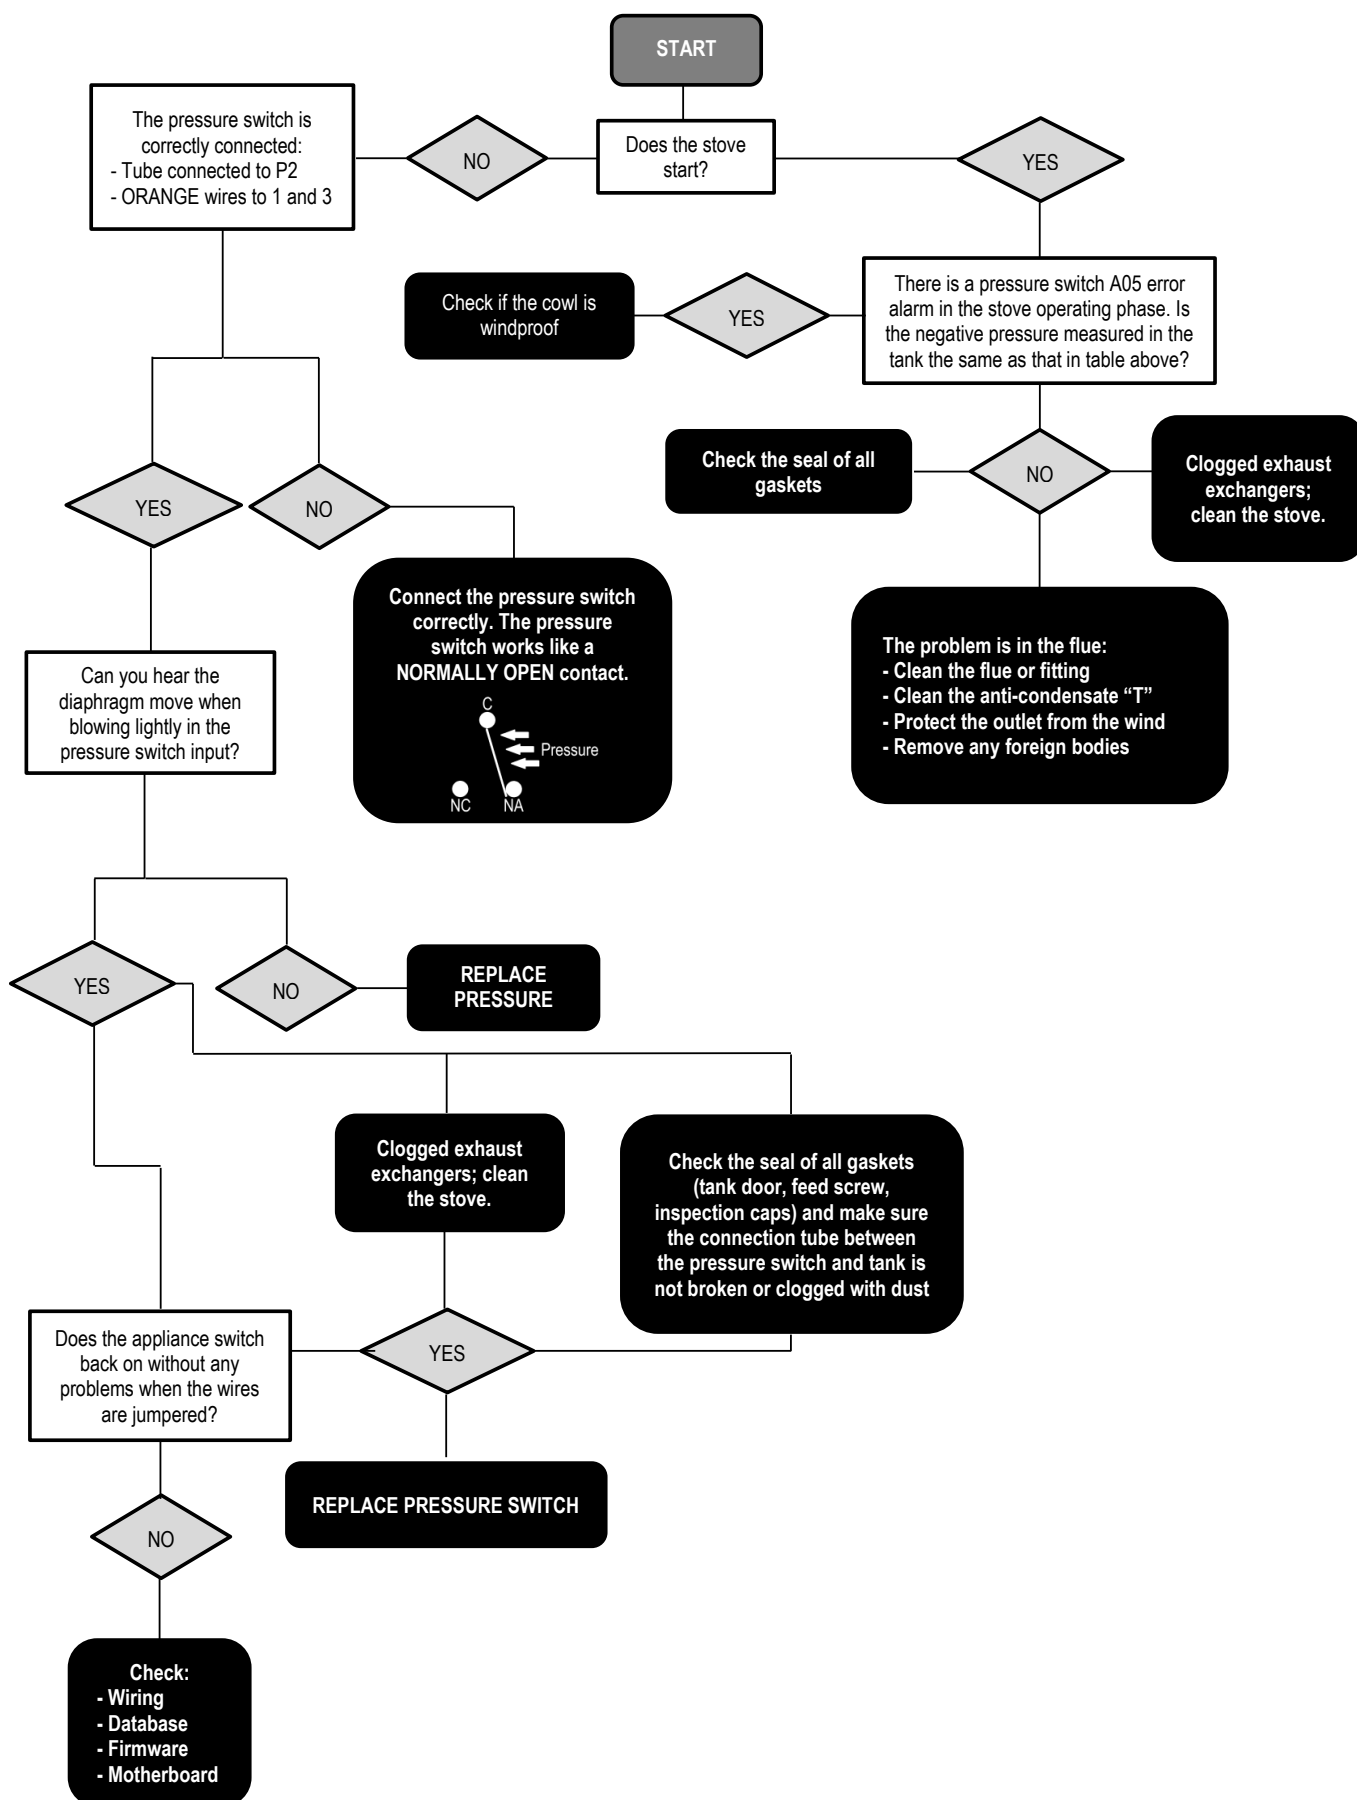

Fig. 56 - Diagram no.4/b
- Connect a digital pressure switch with a tube to detect the depression (see **Fig. 56**).